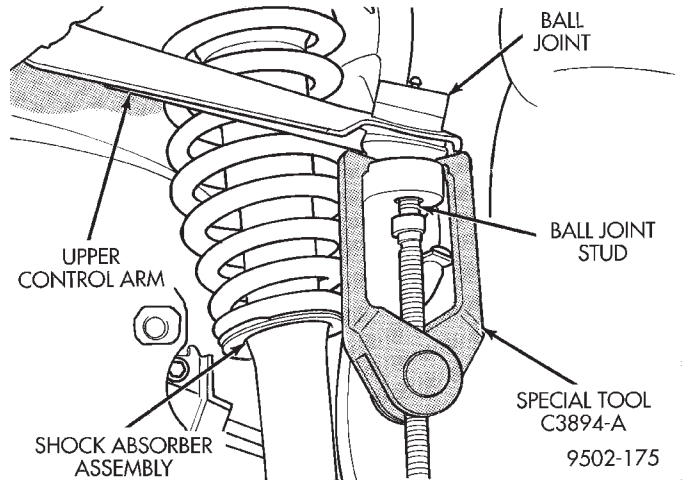

Fig. 5 Ball Joint Stud Removal From Steering Knuckle
- (7) Remove the upper ball joint stud from the steering knuckle using Puller, Special Tool, C-3894-A (Fig. 5). Pull steering knuckle outward and position toward the rear of the front wheel opening.